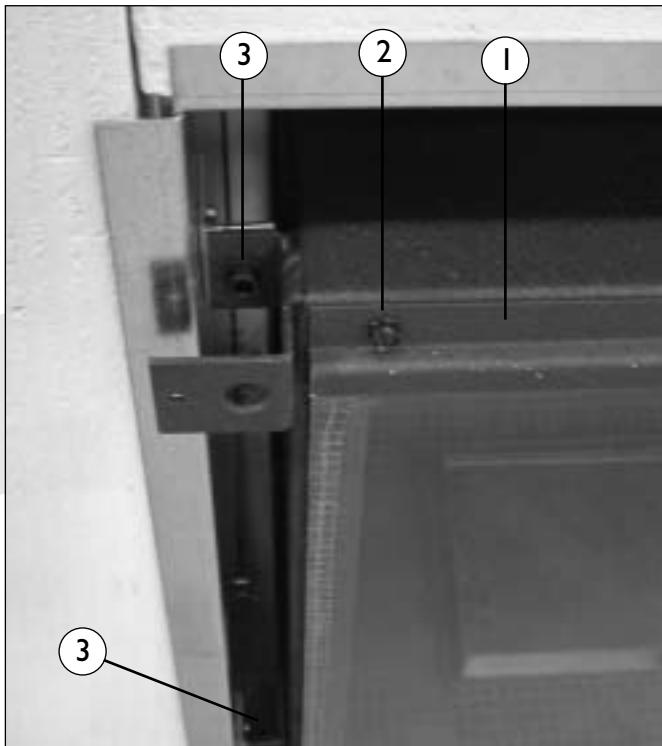
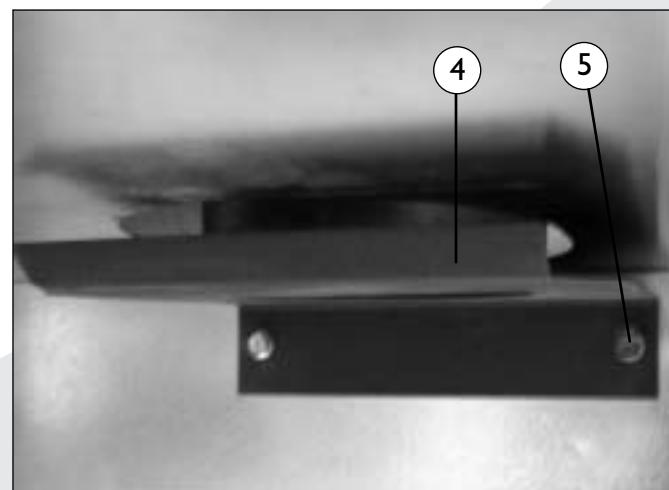

fig. 1
fig. 2
- Take out the glass pane (fig.1) by removing the glass strip at the top (1). This is fitted with 5 self-tapping screws (2).
- Slide the interior out of the casing by unscrewing the 4 socket-head screws (3).
- Dismantle the outlet connector (4) by removing the 2 self-tapping screws (5), (fig.2).
Once the logs or stones are in position, the glass pane can be replaced and fixed with the glass strip (1) and the 5 self-tapping screws (2) (fig.1).